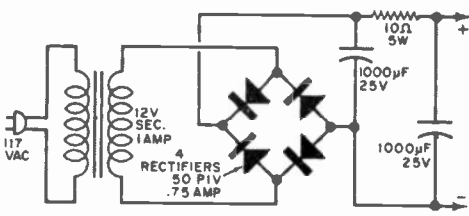

Fig. 7. This simple power supply will enable the builder to operate his Mini-Verb off the 117-volt a.c. lines. All components are easily purchased.
**“Stationary” Applications.** To use the “Mini-Verb” with your high fidelity system (or public address equipment), you will need a 12-volt power supply that can deliver 500 mA with good regulation and low hum. A typical circuit is shown in Fig. 7.